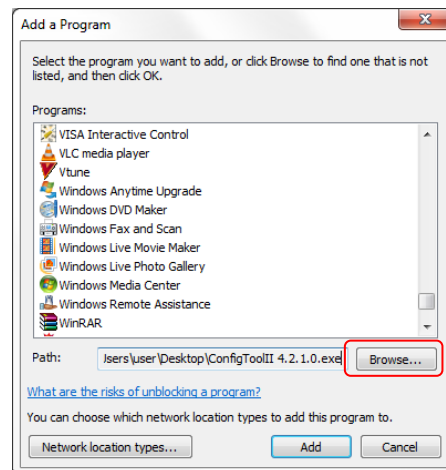

Figure 87 - Browsing for executable to add
- Click the “Browse...” button. Refer to Figure 87.